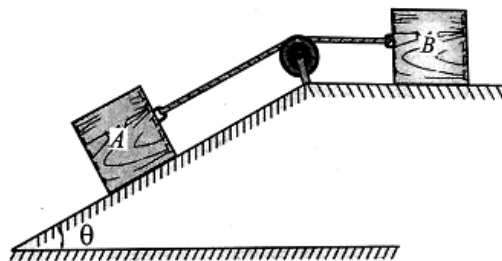

Fig.7
5. Find the value of ' Θ ' if the block 'A' and 'B' shown in Fig.7 have impending motion. Given block A = 20 kg, block B = 20 kg, $\mu_A = \mu_B = 0.25$. [10 M]